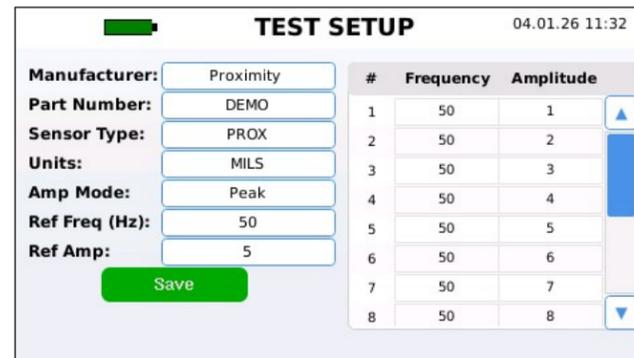

Figure 54
2. Add a custom proximity probe sensor if needed (Figure 54). See detailed instructions in **Test Setup Screen** on page 45.